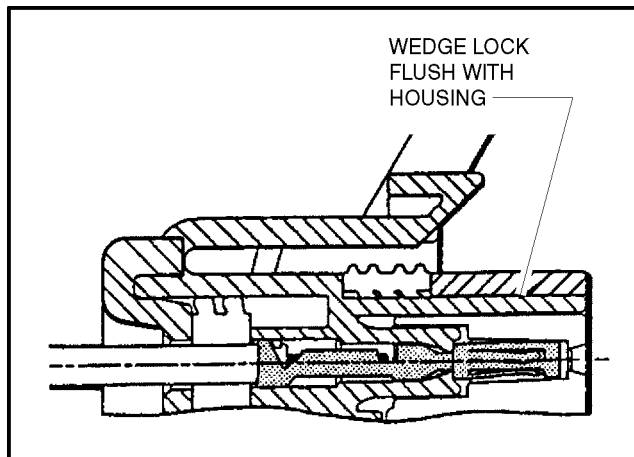

Figure 7-9. Connector Assembly (4 of 4)
4. Slide the wedge lock into the housing until it is flush with the housing (See Figure 7-9. Connector Assembly (4 of 4)).